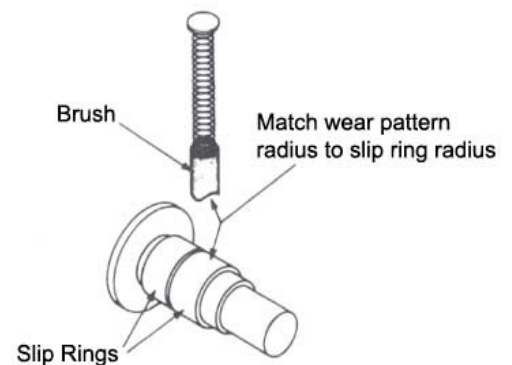

Fig 4
- 4) Reinstall brushes into brush holder. If existing brushes are reinstalled after inspection make certain to match wear pattern to slip ring (Fig 4). With brush placed into holder compress entire spring into holder and retain brush contact into opening with a 1/16" drill bit or mechanics wire. Install second brush following same procedure; slipping retaining pin forward through front opening of brush box to secure both brushes. (Fig 5).